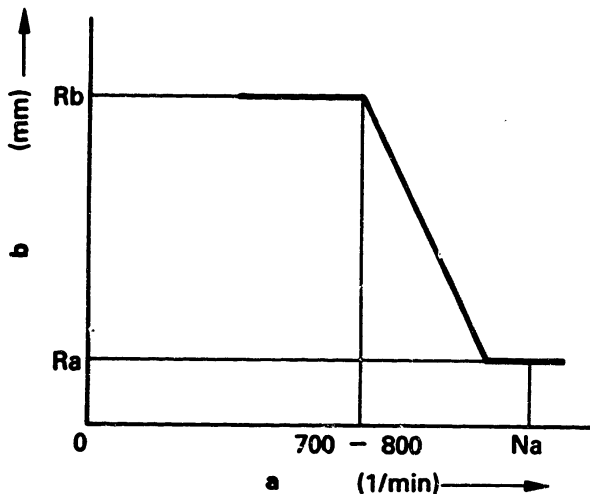

Fig. 73 Flyweight lift and full load position
2. While raising pump speed to "Na", make adjustments by means of full-load stopper bolt (48) so that control rack position corresponds with "Ra". (Figs. 73 and 74)